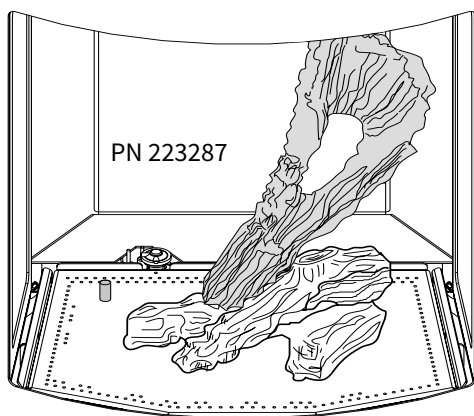

Figure 29. Lean the Right Log up against the upper right corner of the firebox and engage the slot on the tip with the pin on the Bottom Log.
2. Evenly disperse the Ember Stones supplied over the burner plate around the log parts. **DO NOT ALLOW EMBER STONES TO BLOCK THE PILOT ASSEMBLY AREA.** The carry-over ports directly in front of the pilot must remain clear for proper pilot ignition. See figs. 29 and 65 for examples.